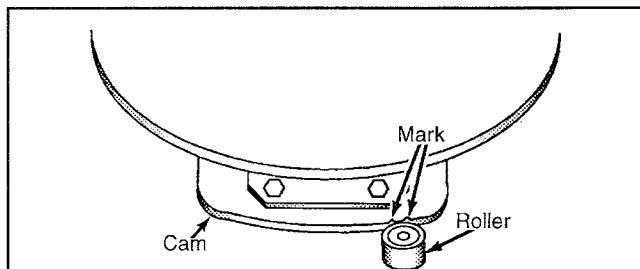

Fig. 182 Roller at the cam marks - 18 Jet-35 hp (521cc) models
◆ See Figures 182 and 183
- ◆ See Figures 182 and 183